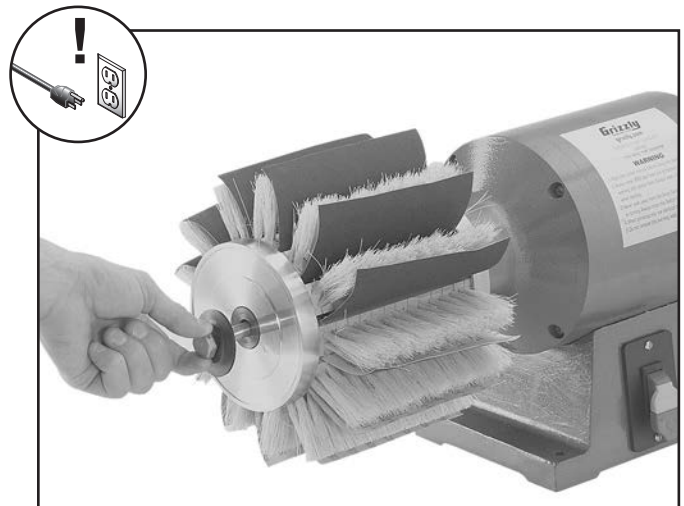

Figure 10. Installing flap sander.
3. Position the flap sander so the sanding surface of the paper is facing you, then carefully slide it onto the left hand arbor, as shown in **Figure 10**.
4. Secure the flap sander by threading the flap sander arbor bolt and flange into the spindle, as shown in **Figure 10**. Make sure to fully tighten the bolt.